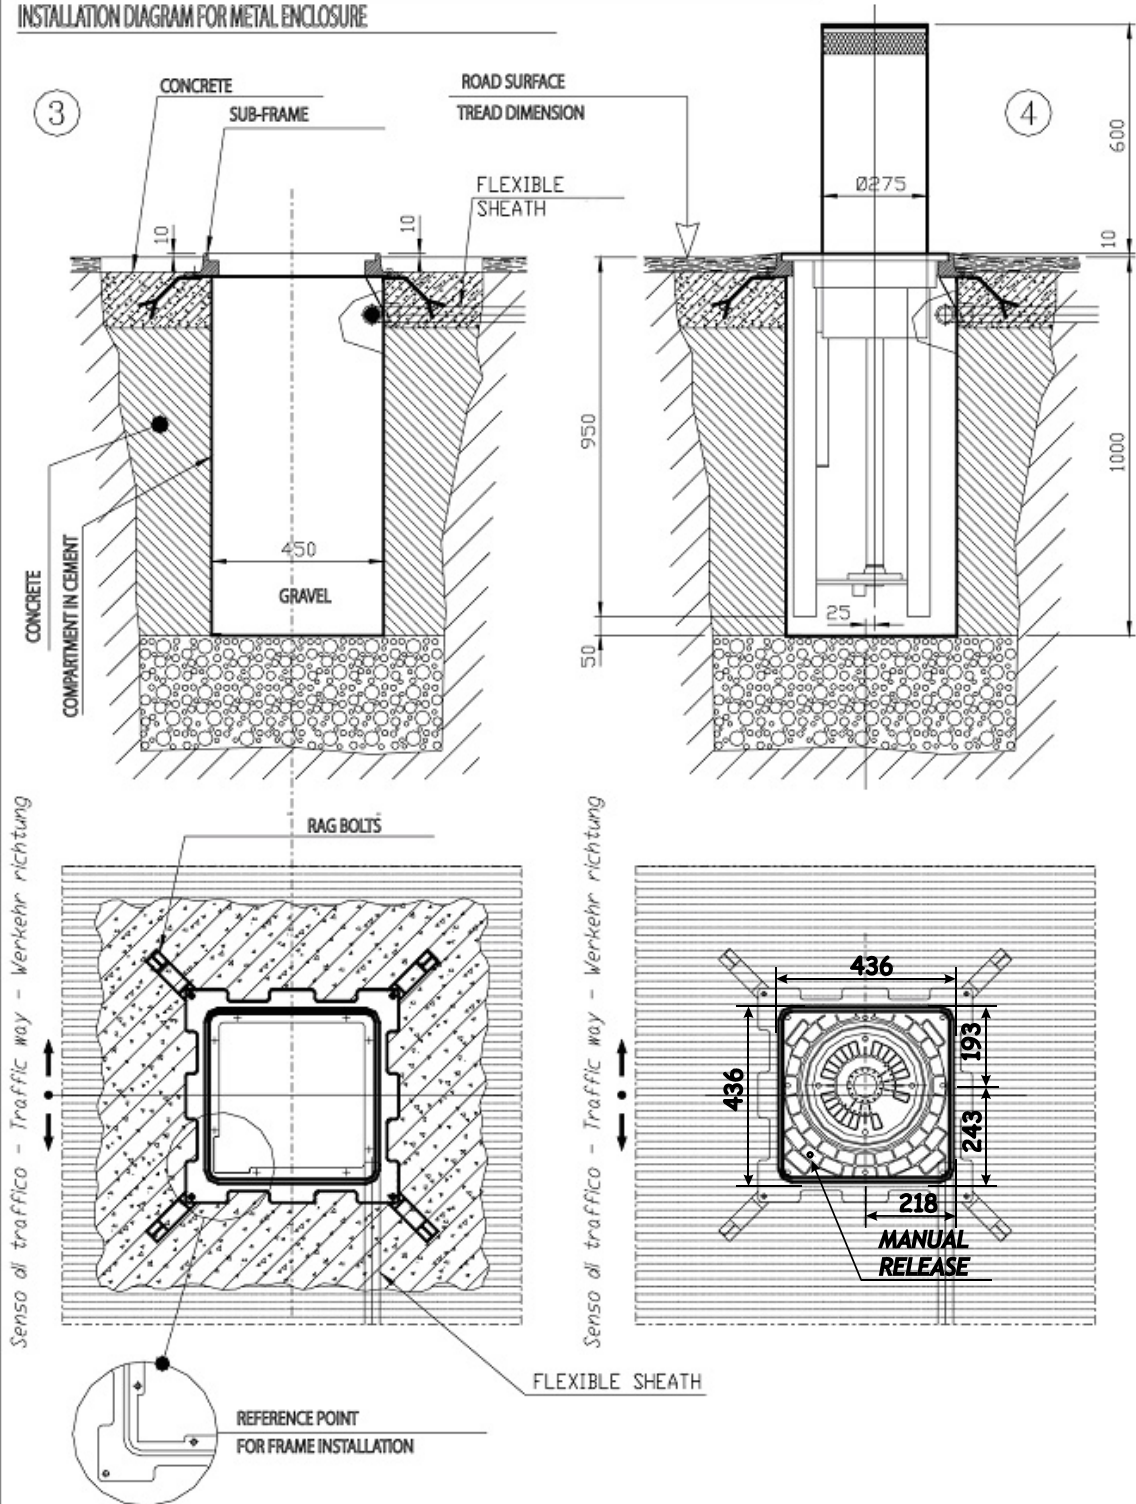
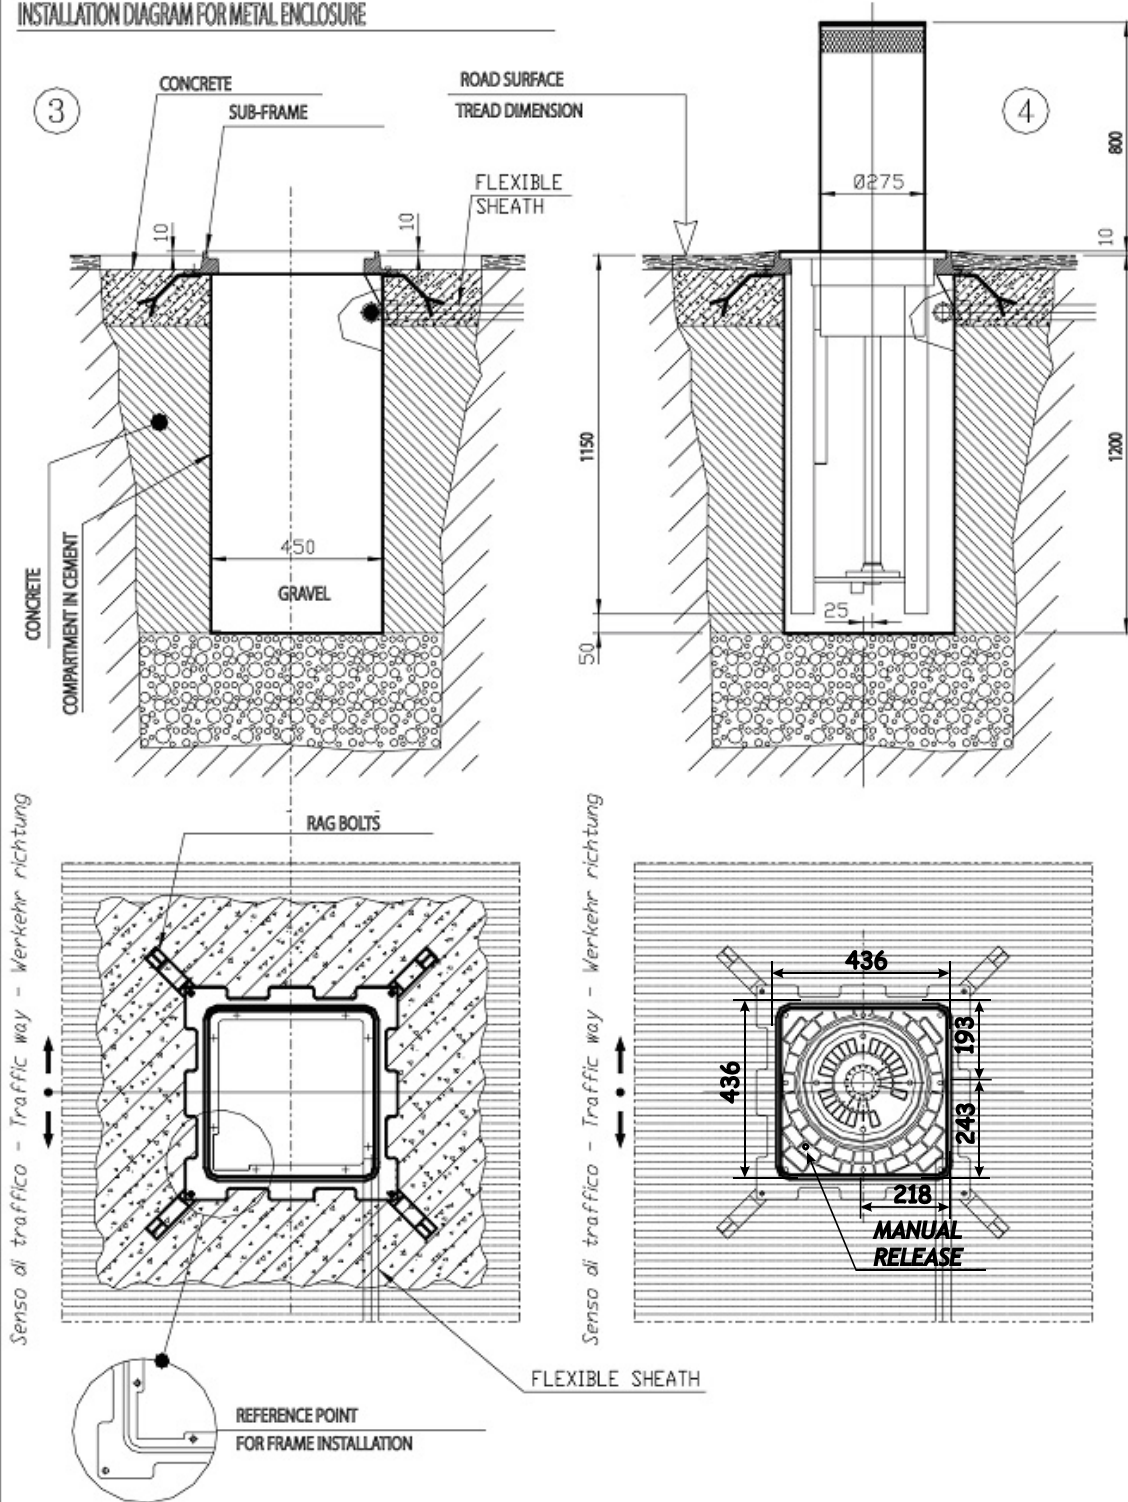

Fig. 3
Fig. 4
- 7) Distribute concrete all around the pit, up to about 10cm from the tread surface dimension, making sure that the rag-bolts supplied with the pit are appropriately positioned. When the pit has been installed, finish the road surface with the same type of material (fig. 3 and fig. 4).